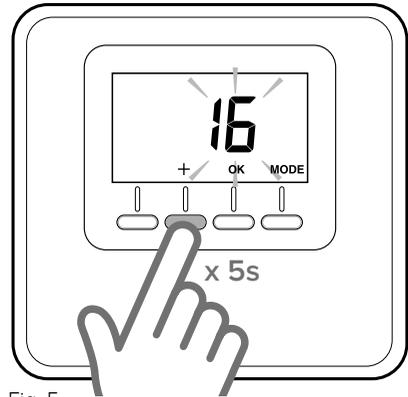

Fig. 5
- Hold the “+” key on the room sensor down for 5 seconds (Fig. 5). The display will alternate between the software version and modification index.